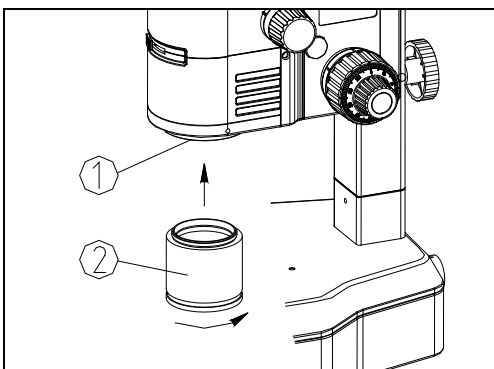

Fig.5
1. Rotate the objective as the arrowhead direction shown in the figure, and screw the objective (2) into the objective nosepiece (1). (See Fig. 5)